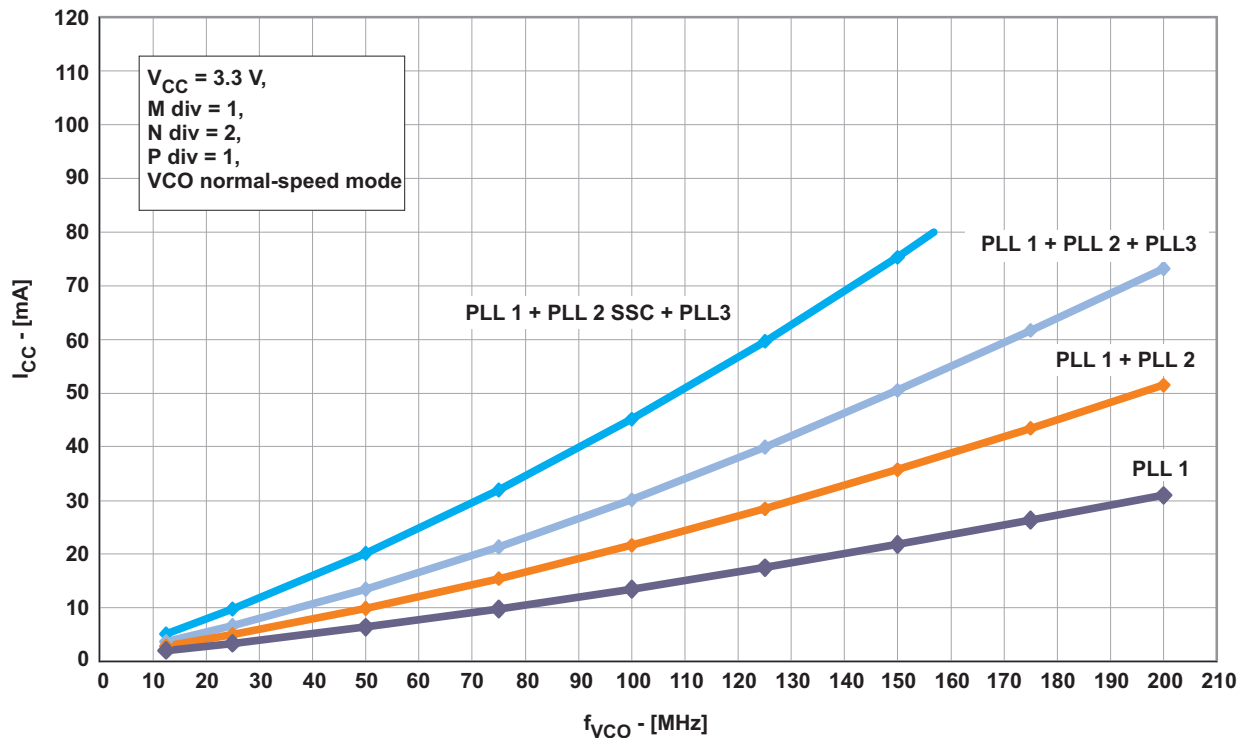
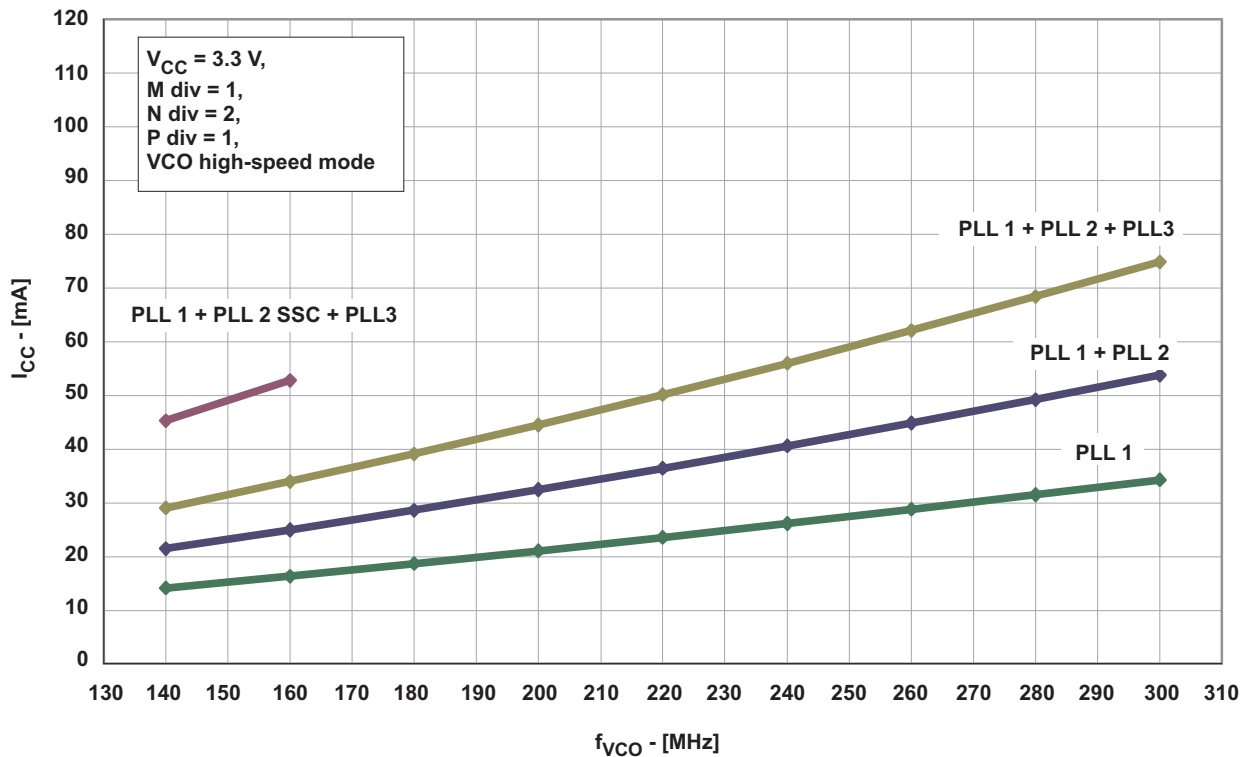
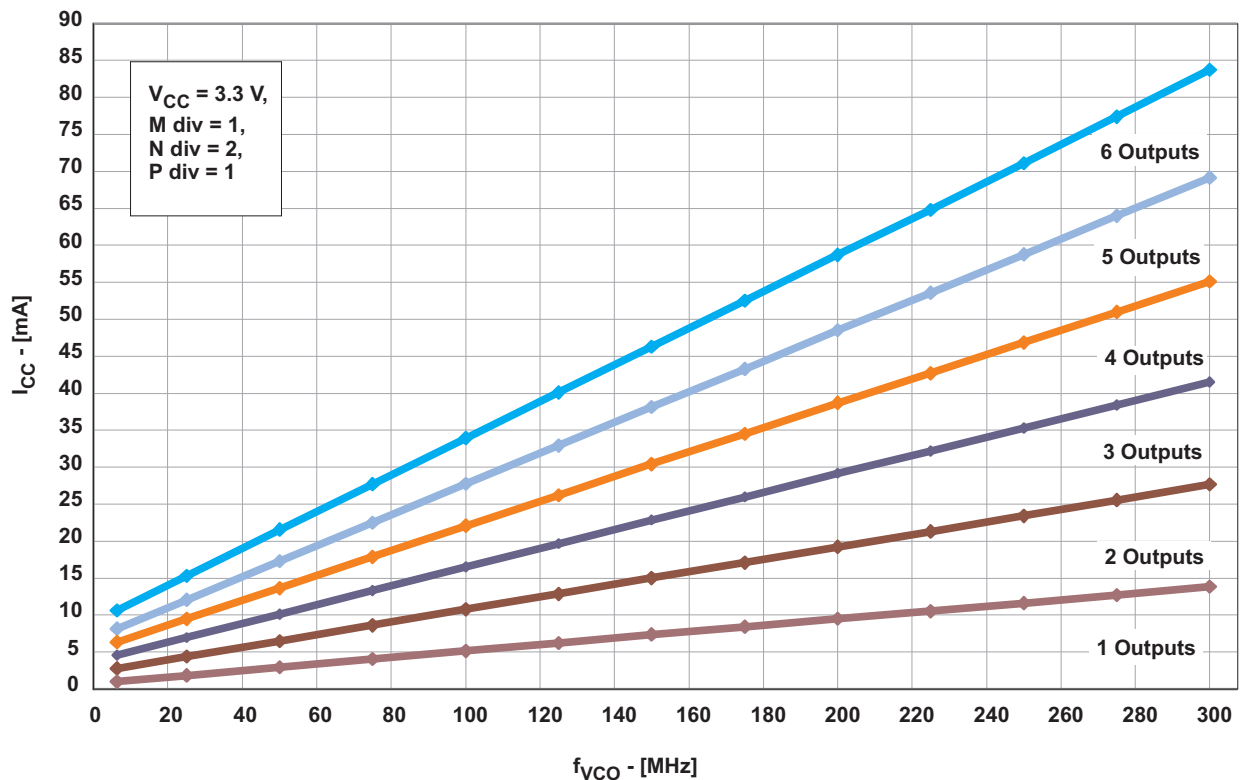
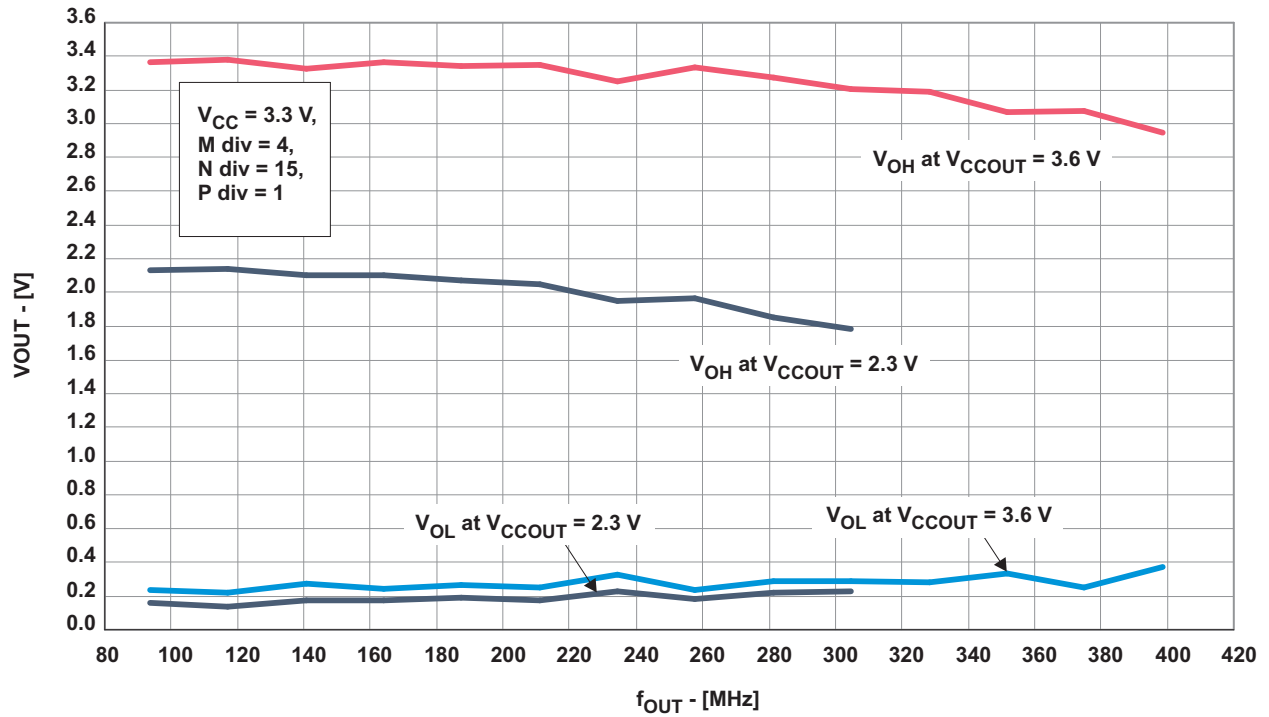

Figure 2. I_{CC} vs Number of PLLs and VCO Frequency (VCO at Normal-Speed Mode, Byte 6 Bit [7:5])
Figure 3. I_{CC} vs Number of PLLs and VCO Frequency (VCO at High-Speed Mode, Byte 6 Bit [7:5])
Figure 4. I_{CCOUT} vs Number of Outputs and VCO Frequency
Figure 5. Output Swing vs Output Frequency
- (1) All typical values are at respective nominal V_{CC} .
- (2) For calculating total supply current, add the current from Figure 2, Figure 3, and Figure 4. Using high-speed mode of the VCO reduces the current consumption. See Figure 3.
- (3) Normal-speed mode or high-speed mode must be selected by the VCO frequency selection bit in Byte 6, Bit [7:5]. The min $f_{(VCO)}$ can be lower but impacts jitter-performance.
- (4) Do not exceed the maximum power dissipation of the 20-pin TSSOP package (600 mW at no air flow). See Figure 5
- (5) 50000 cycles.
- (6) Jitter depends on configuration. Jitter data is normal t_r/t_f , input frequency = 3.84 MHz, $f_{(VCO)} = 245.76$ MHz.